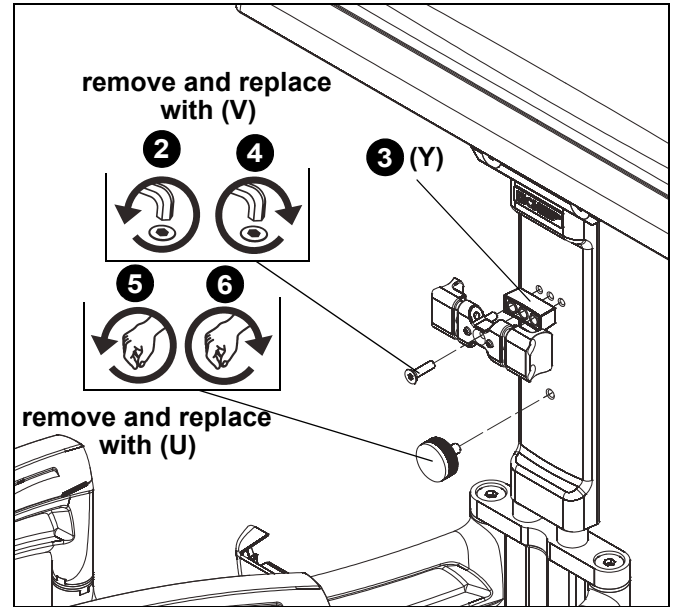

Figure 20
2. Remove flat hex-head screw holding latch to center support. (See Figure 20)
3. Place latch spacer (Y) behind latch and line with holes on center support. (See Figure 20)
4. Install #10-24 x 1 1/4" flat hex-head screw (V) through latch and latch spacer (Y) and into holes on center support. (See Figure 20)
5. Remove 1/2" knob assembly installed on center support. (See Figure 20)
6. Replace 1/2" knob assembly with 1" knob assembly (U). (See Figure 20)